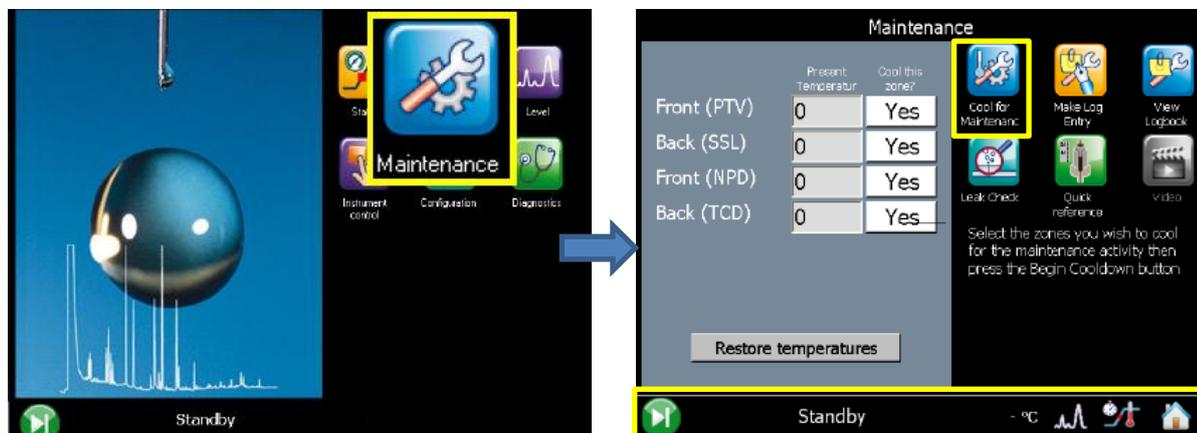

Figure 3. Cool for maintenance menu. The status of the system is displayed in the bottom bar of the interface.
5.1.1 The GC oven will require to be cool down if its temperature exceeds 40°C. To do so, set the GC oven to cool down by pressing “Maintenance” > “Cool for Maintenance” from the interface main screen (Figure 3).